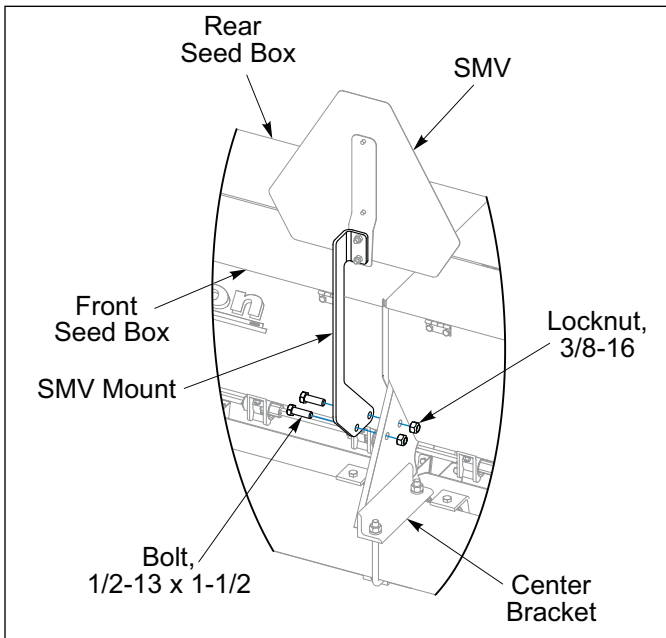

Figure 2-1: SMV Mount
4. 8FT and 10FT Seeders, install SMV Mount to Seed Box Center Bracket with 1/2-13 x 1-1/2 Bolts and Locknuts. **See Figure 2-1.**